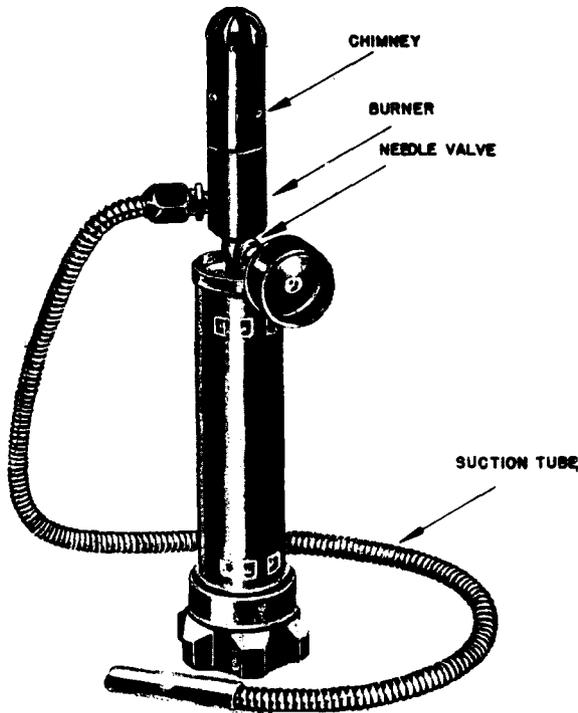

Fig. 11 — Halide Torch
7.02 *Halide Leak Detector:* A very valuable tool in the maintenanceman's tool kit is the halide torch, see Fig. 11. It is an open flame tool which utilizes color changes in the flame to detect the presence of Freon gas, and extreme care must be exercised in its use. Do not enter a room in which the leak is suspected with a lighted torch until the room has been thoroughly aired since any area improperly aired before making tests will decrease the accuracy of the test as the flame will indicate gas present anywhere in the room.